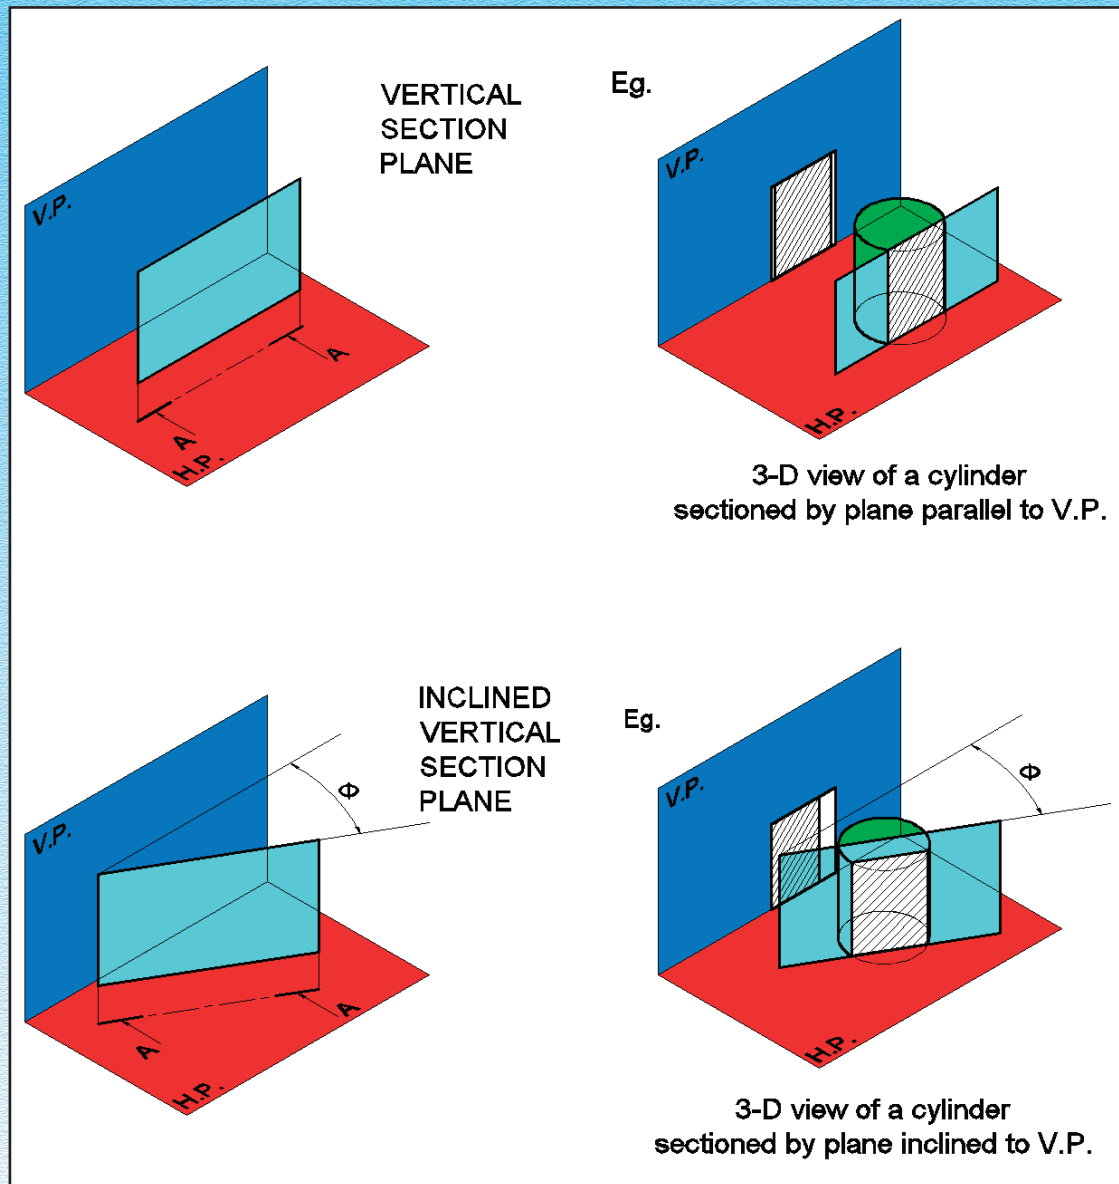

Fig. 5.14
As the name suggests, the section is seen in the Front View. This is possible when the **section plane is vertical/inclined to the vertical** i.e. perpendicular to HP and parallel to VP or it is inclined to the vertical plane (VP) as shown in Fig. 5.14.